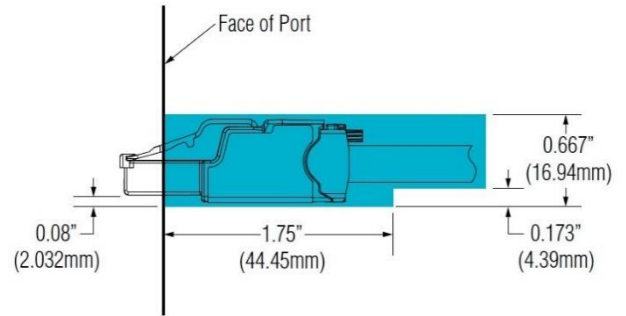

Figure 7. Space required to fit TX6A Field Term Plug.
- The “Space Required” shown in Figure 7 includes length clearance to insert & remove the plug.